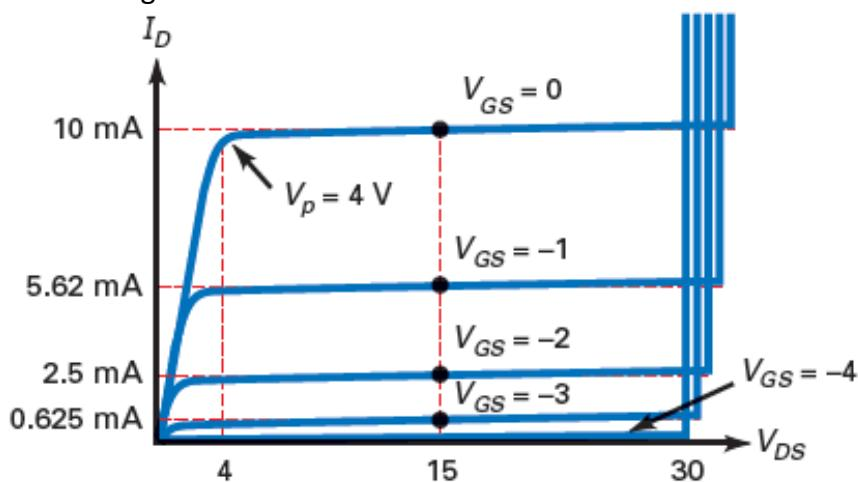

Figure-5 Drain Curves
- In Figure-5, the pinch-off voltage separates two major operating regions of the JFET. The almost-horizontal region is the active region. The almost-vertical part of the drain curve below pinch-off is called the ohmic region.
- R_{DS} is called the ohmic resistance of the JFET. In Figure-5, $V_P = 4$ V and $I_{DSS} = 10$ mA. Therefore, the ohmic resistance is:
- Figure-5 shows the drain curves for a JFET with an I_{DSS} of 10 mA.
- In Figure-5, notice that $V_{GS(\text{off})} = -4 \text{ V}$ and $V_P = 4 \text{ V}$
- The transconductance curve of a JFET is a graph of I_D versus V_{GS} . By reading the values of I_D and V_{GS} of each drain curve in Figure-5, we can plot the curve of Figure-6a. Notice that the curve is nonlinear because the current increases faster when V_{GS} approaches zero.